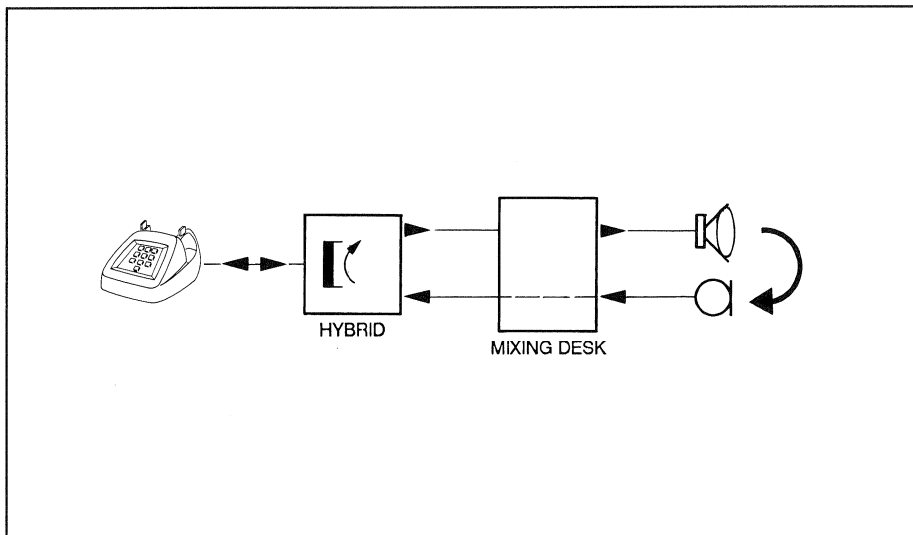

Fig. 5b Feedback via the studio
- Feedback in the studio, particularly when monitoring the program via speakers (see Fig. 5b);